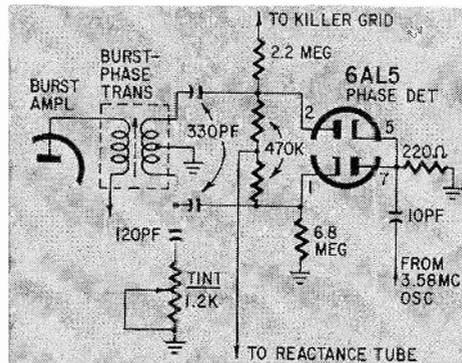

Fig. 2—Automatic frequency-phase control detector. You've seen circuits like this in FM radio and black-and-white TV.
2. Phase detector, sometimes called ϵ pc and other complex names (Fig. 2). Don't let 'em fool you—it's just a plain old ratio detector, discriminator or whatever you want to call it! Compares the phase of the burst signal from the transformer with the signal being developed by the local oscillator, and develops a dc correction voltage to apply to the...